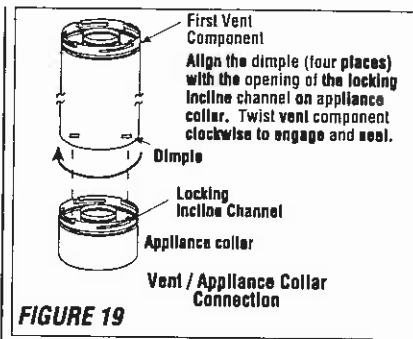

FIGURE 19
B. Attach vent components to appliance - Secure Vent SV4.5 direct vent system components are unitized concentric pipe components featuring positive twist lock connections (see **Figure 19**). All of the appliances covered in this document are fitted with collars having locking inclined channels. The dimpled end of the vent components fit over the appliance collar to create the positive twist lock connection.
To attach a vent component to the appliance collar, align the dimpled end over the collar, adjusting the radial alignment until the four locking dimples are aligned with the inlet of the four inclined channels on the collar (refer to **Figure 19**). Push the vent component against the collar until it fully engages, then twist the component clockwise, running the dimples down and along the incline channels until they seat at the end of the channels. The unitized design of the Secure Vent components will engage and seal both the inner and outer pipe elements with the same procedure. Sealant and securing screws are not required.
Secure Vent SV4.5 direct vent system components are unitized concentric pipe components featuring positive twist lock connection. (refer to Figure 19 on page 11). All of the appliances covered in this document are fitted with collars having locking inclined channels. The dimpled end of the vent components fit over the appliance collar to create the positive twist lock connection.
Analyze the vent routing and determine the types and quantities of sections required 4 1/2" (114 mm), 10 1/2" (267 mm), 22 1/2" (572 mm), 34 1/2" (876 mm) and 46 1/2" (1181 mm) net section lengths are available. Plan the vent lengths so that a joint does not occur at the intersection of ceiling or roof joists. Make allowances for elbows as indicated in Figure 19.
D. Attach vent components to appliance - To attach a vent component to the appliance collar, align the dimpled end over the collar, adjusting the radial alignment until the four locking dimples are aligned with the inlets of the four incline channels on the collar (refer to Figure 19 on page 11).